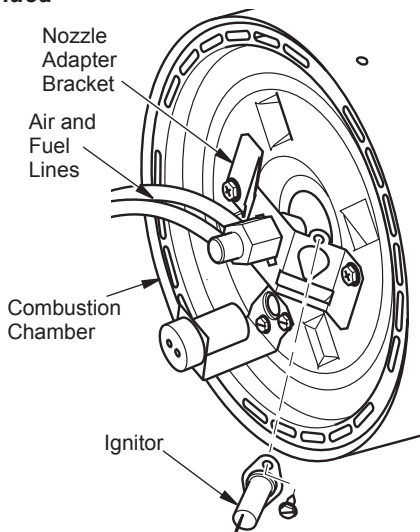
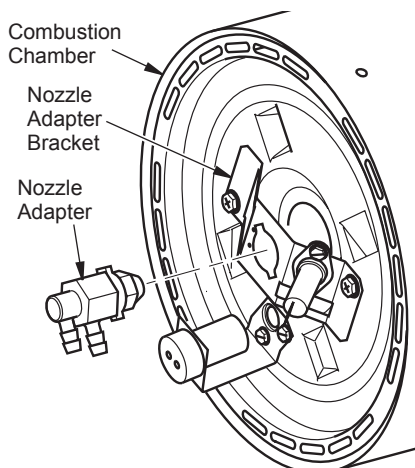
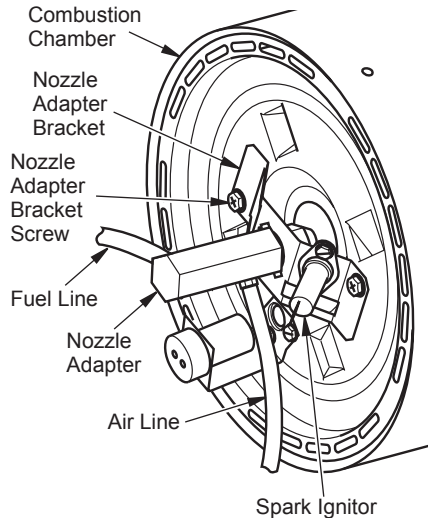
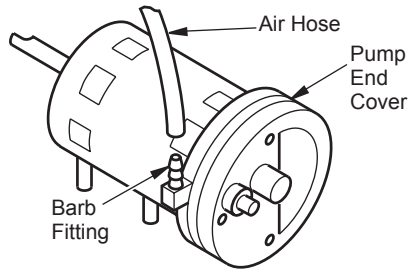

Figure 24 - Removing Spark Ignitor
Figure 25 - Removing Nozzle/Adapter Assembly (100/150 Models)
Figure 27 - Removing Nozzle/Adapter Assembly (200 Model)
Figure 29 - Air Hose to Barb Fitting
3. Turn nozzle assembly to notch in bracket and pull toward motor to remove (see Figure 25).
9. Replace nozzle adapter into bracket (see Figure 25, page 15) and rotate to position shown in Figure 24, page 15.
4. Remove two nozzle adapter bracket screws (see Figure 27).
2. Inspect fuel and air line hoses for cracks and/or holes. If fuel line hose is damaged, disconnect from nozzle adapter (see Figure 24, page 17 or Figure 27) and from fuel filter (see *Fuel Filter*, page 16). If air line hose is damaged, disconnect from nozzle adapter (see Figure 24, page 17 or Figure 27, page 18) and from barb fitting on pump end cover (see Figure 29).
3. Install new air and/or fuel line. Attach one end of air line hose to barb fitting on pump end cover (see Figure 29) and the other end to nozzle adapter (see Figure 24, page 17 or Figure 27, page 18). Attach one end of fuel line hose to fuel filter (see
Fuel Filter, page 17) and the other end to nozzle adapter (see Figure 24, page 17 or Figure 27, page 18).